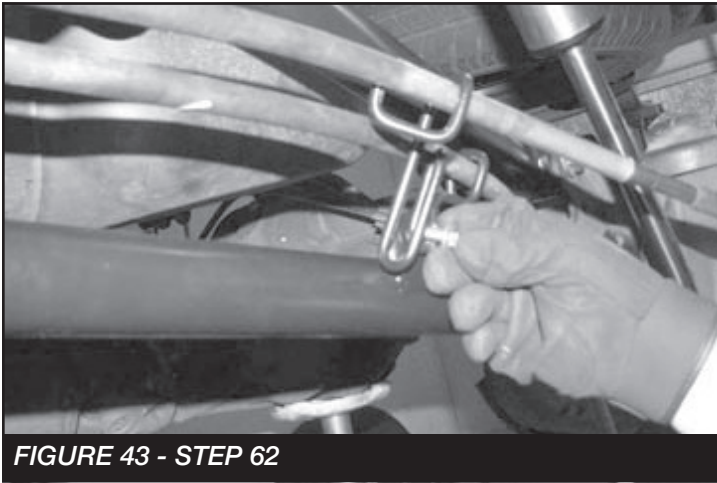

FIGURE 43 - STEP 62
62. Attach the E brake cable to the tab on the link arm using 5/16" hardware. **SEE FIGURE 43**